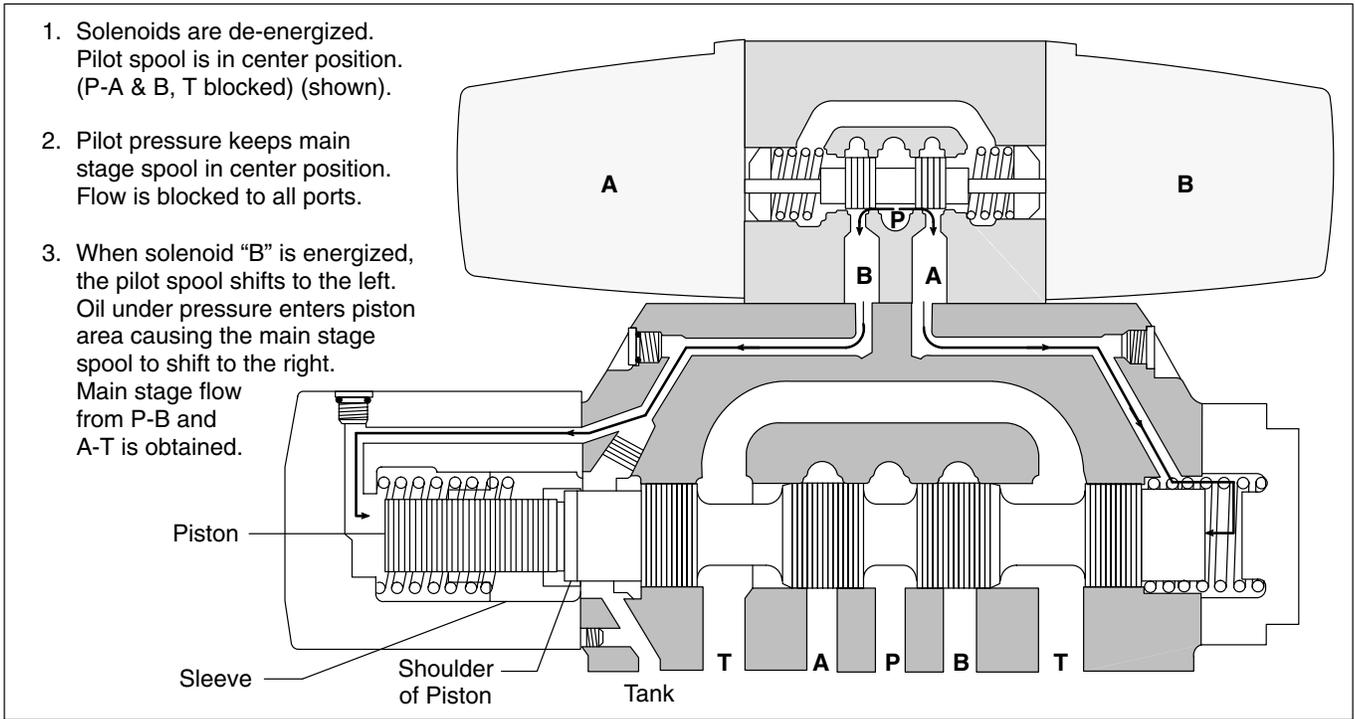

Figure 7. Pressure Centered "D" Model
Assume both pilot valve solenoids are de-energized and the main stage spool is positioned to the left (see Figure 7). Pilot pressure is applied to both ends of the main stage from the number seven (7) pilot spool. The sleeve moves to the right under the influence of the spring and pilot pressure until the piston shoulder is contacted. Since the sleeve and piston areas are greater than the total spool area at the right hand end of the valve, the sleeve continues to move to the right carrying the piston with it until it contacts the valve body (center position).
Pressure centered valves are not available with integral check valves. (Refer to Section V, Internal Valve Functions, for integral check valve information.) Pressure centered models have the letter "D" stamped into the unit nameplate (i.e. DG5S4-062D-\*\*-51). Figure 7 illustrates spool/spring arrangement on pressure centered models.